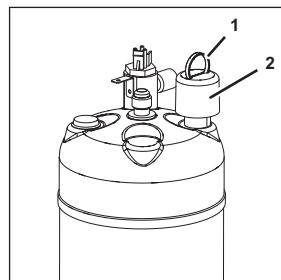

Figure 107
1. Remove the protective cap (Figure 107/2) from the drain valve (Figure 107/1).
4. Attach the protective cap (Figure 107/2) to the drain valve (Figure 107/1).